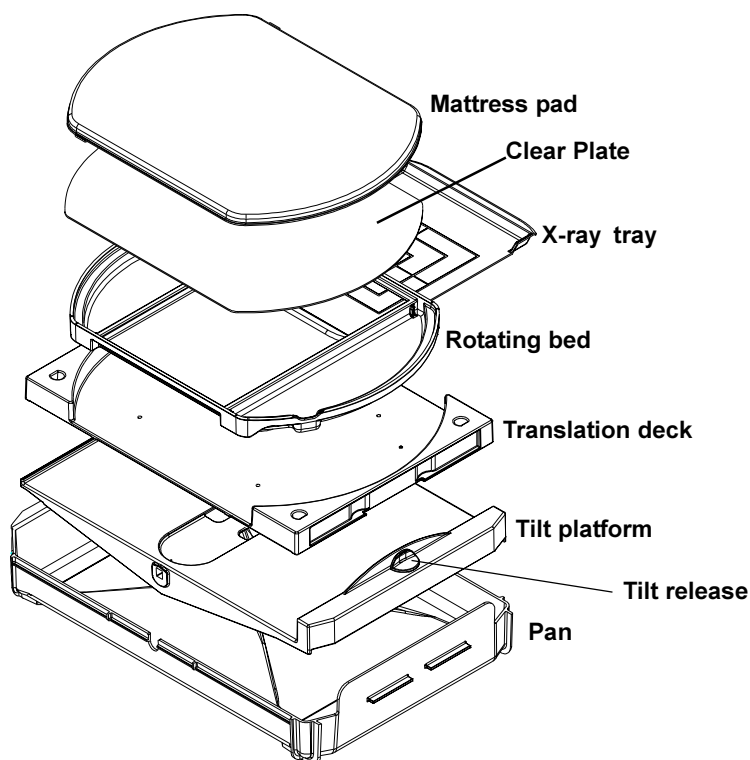

Figure 5-20
5.64 Elevating Base (Figure 5-20 and 5-23)
5.65 Chassis Replacement (Figure 5-20, 5-21, 5-22, 5-24, and 6-11)
5.7 Bed tilt brake shoe replacement (Figures 5-20 and 5-25)